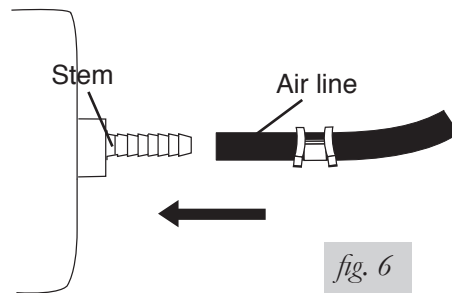

fig. 6
- Push the air line onto the stem, covering all the barbs (Fig. 6). With the pliers, slide the air line clamp upward until it fully covers the barbed section.
5. Push the air line onto the stem, covering all the barbed section (see Fig. 6). With pliers slide the air line clamp forward until it fully covers barbed section.